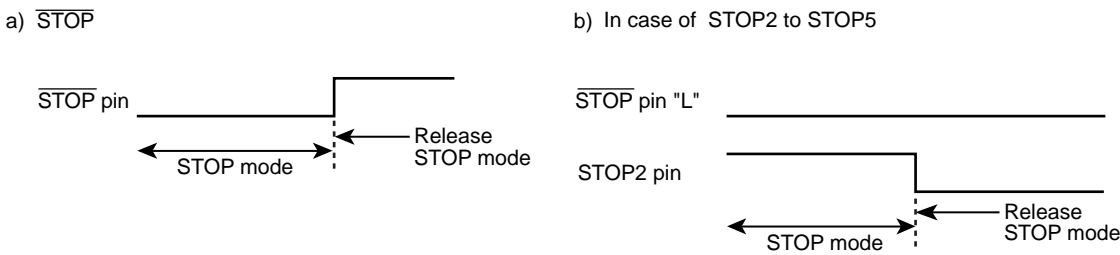

Figure 13-3 Priority of STOP pin and STOP2 to STOP5 pins
- Note 6: When the STOP mode is released by STOP2 to STOP5 pins, the level of  $\overline{\text{STOP}}$  pin should hold "L" level (Figure 13-3).